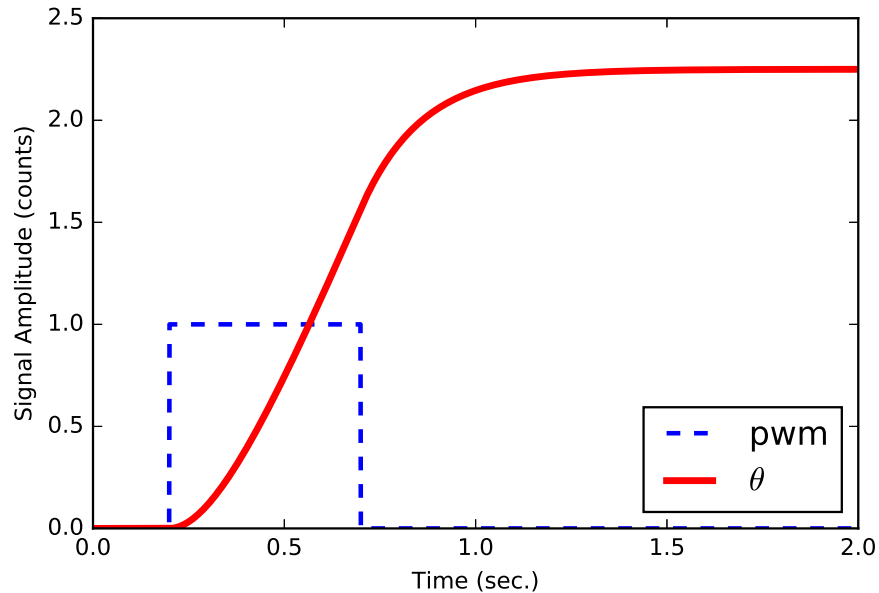

Figure 4: Example pulse response for a DC motor
- an example pulse response plot is shown in Figure 4